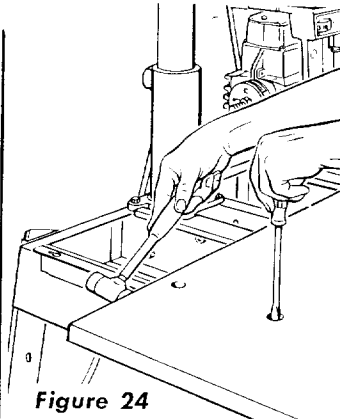

Figure 24
- e. In order to facilitate a later adjustment, check for ability to shift the front table on the supports by tapping it along edges with a mallet. (See figure 24.) If it will not slip, loosen the screws just enough to permit it to move slightly when struck with the mallet, yet requiring a firm "tap" to move it.